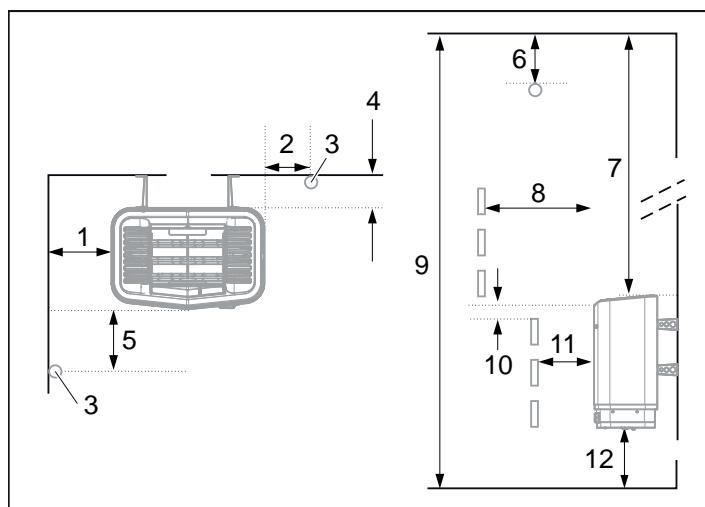
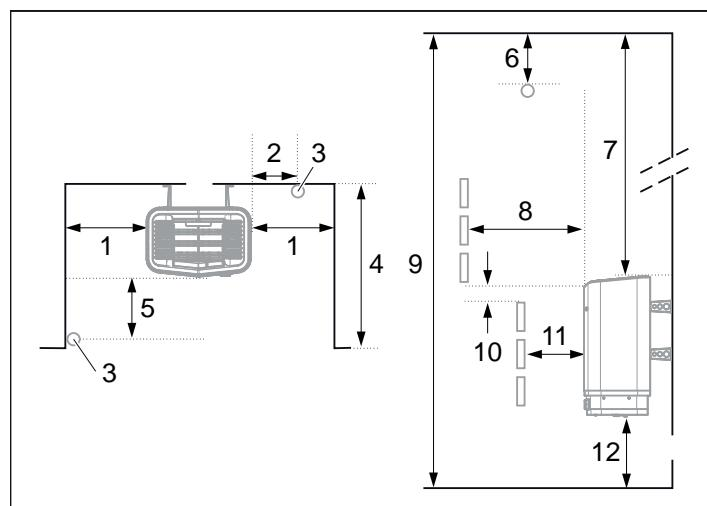

Figure 3: Positioning the heater - normal installation
Figure 5: Positioning the heater - recess installation
- Plan the sensor positioning (see Figure 3, page 8 and Figure 5, page 8).
- on the same wall as the door (or the side wall if very close to the door wall). The heater may also be placed in a recess (see Figure 5).
- Position the heater at a safe distance from the floor, side walls and interior fittings (see Figure 3).
Position the sensor according the picture (see Figure 3).
1. Position the heater at a safe distance from the floor, side walls and interior fittings (see Figure 5).
2. Position the sensor according the picture (see Figure 5).